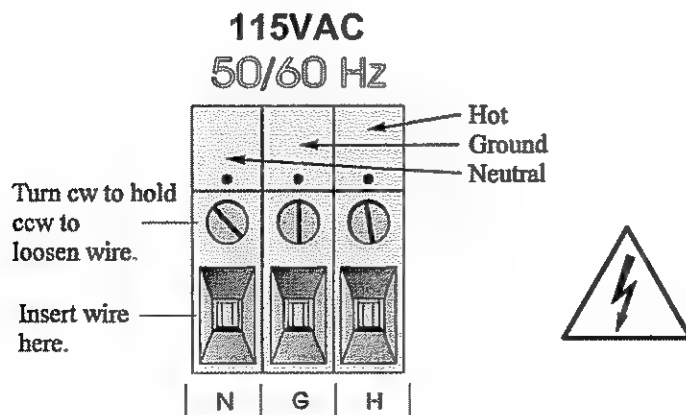

Figure 2-4: Primary Input Power Connections
**Primary Input Power:** The power supply in the Model 6600 will accept a 115 Vac, 50/60 Hz power source. See Figure 2-4 for detailed connections.